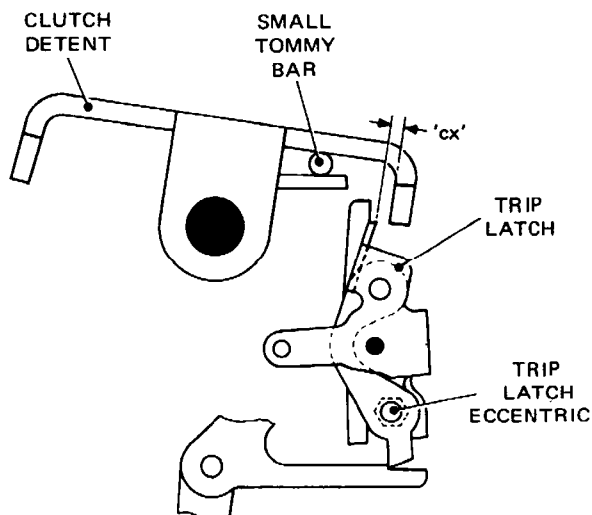

Fig. 4.109 TRANSMITTER CLUTCH DETENT/TRIP LATCH CLEARANCE
- 119.1 With the machine in the rest condition, insert a small tommy bar underneath the transmitter clutch detent, as shown in Fig. 4.109. Depress a key on the keyboard and check that there is a clearance of at least 0.005 inch (dimension 'cx') between the detent and the trip latch.